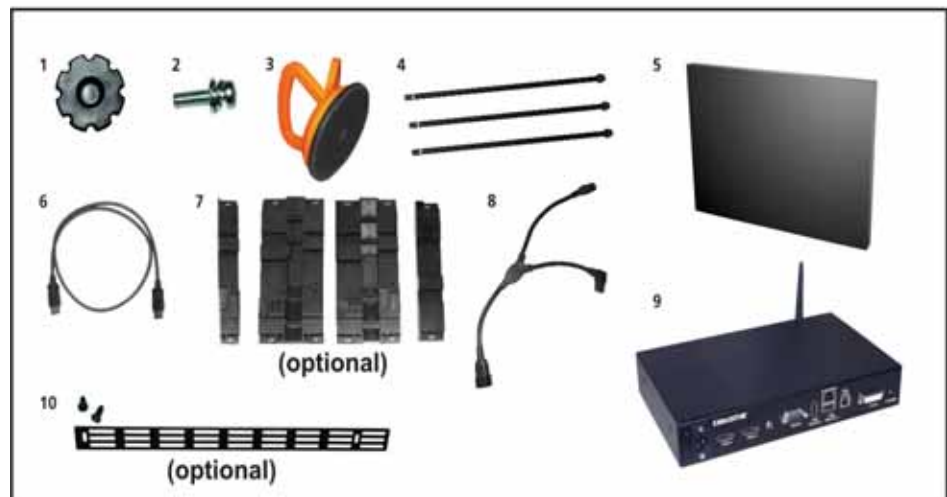

Figure 2-4 Tools and Hardware
For every MicroTiles system you will need Display Units, Screens (one per display unit), External Control Units (ECUs) and Setup Kits (one per nine display units) and a User Kit. This combination provides the tools and hardware shown in **Figure 2-4**. For a complete overview of the available kits, refer to 1.6 Order Guide, on page 1-6. For detailed information, go to www.microtiles.com.
16. **(Optional)** Fasten the grilles to the leveling feet, using the supplied fasteners. Refer to **Figure 2-4 Tools and Hardware**, on page 2-5.